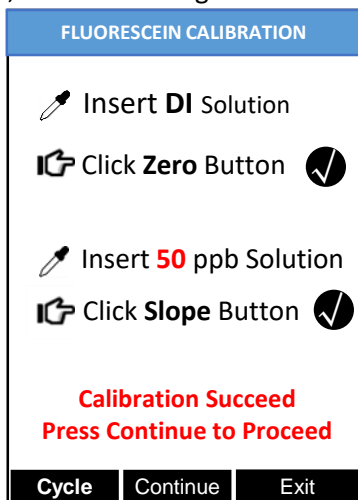

Figure 6
- 8) If calibration is successful, the screen will update with a second checkmark for the Slope setting as in Fig. 6, and the message Calibration Succeed will appear.